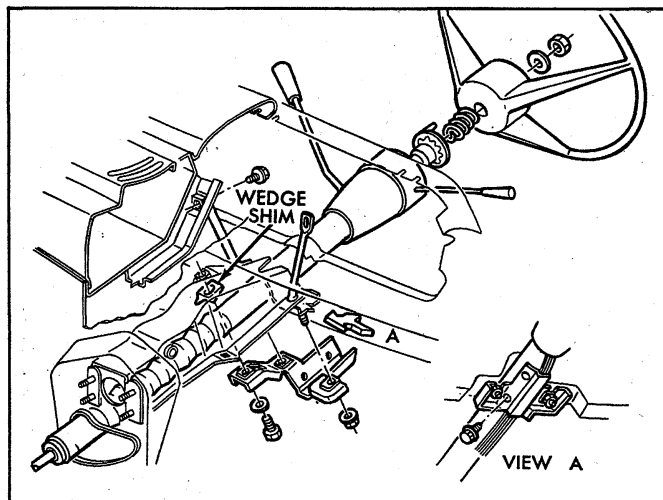

Fig. 58—Instrument Panel Mounting Bracket—Chevelle
3. Chevelle only (fig. 58):
Lay wedge shim in position on instrument panel column mounting bracket and place bracket in correct position on underside of instrument panel. Loosely install bracket using bracket to column mounting bolts, bracket nuts, and bracket to instrument panel washer and bolt as shown in Figure 58.